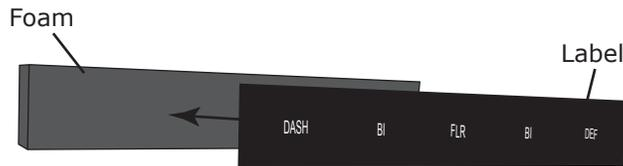

Figure 13
1. Install label onto foam as shown in Figure 13, below.